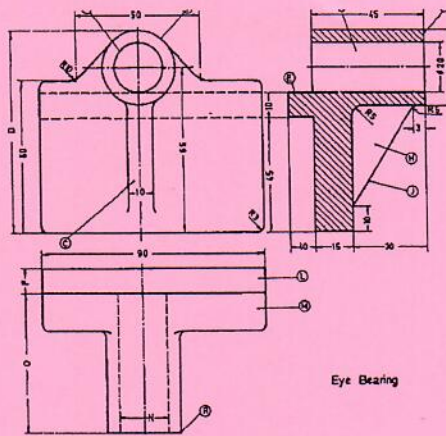

Figure 3 A bearing eye
c) Fill in missing information about Figure 3 in the sections that follow: